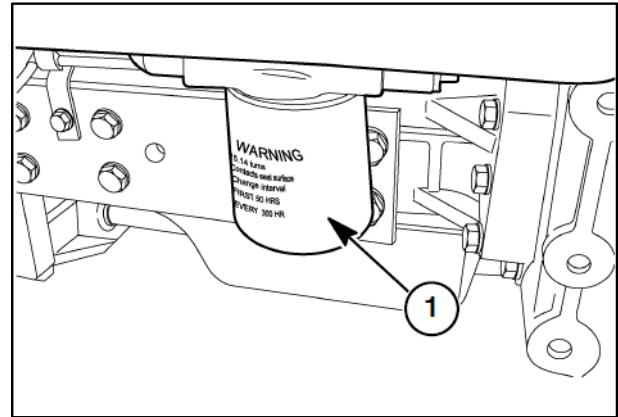

Figure 3-18
To change the H.S.T. system oil filter (1) in Figure 3-18, follow the procedures found above for changing the hydraulic system oil filter.